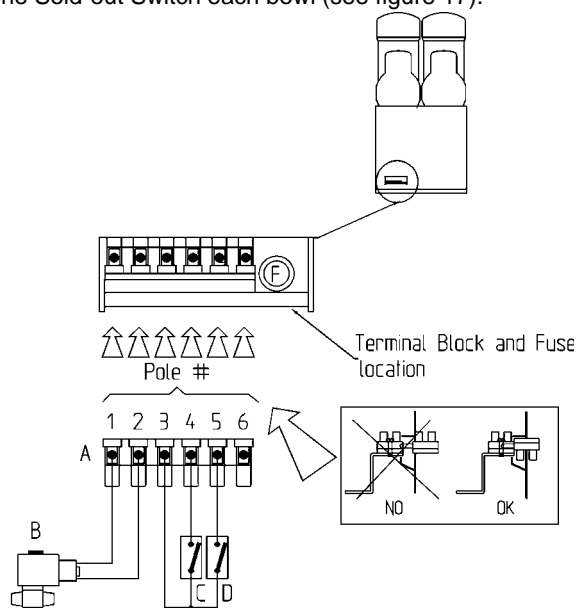

figure 17
- 2 - On the lower rear panel of the machine a 6-pole terminal block is located. It is designed for connecting some accessories such as a Safety Water Line Solenoid Valve and one Sold-out Switch each bowl (see figure 17).
- 3 - The Safety Water Line Solenoid Valve is intended to cut off the main water line (if present in the remote fill system) whenever the Autofill Device is not refilling. The Sold-out Switch (one for each bowl) disables the Autofill Device and activates acoustic and visual alarms whenever the incoming beverage is sold out. The Safety Water Line Solenoid Valve, if present, must be connected to the unit using #1 and #2 poles of the terminal block (see figure 17).
A sold-out warning light along with a buzzer (visual and acoustic sold-out alarms) are located respectively on and inside the rear cover. They can run only if an applicable Sold-out switch is connected to the terminal block (see figure 17).